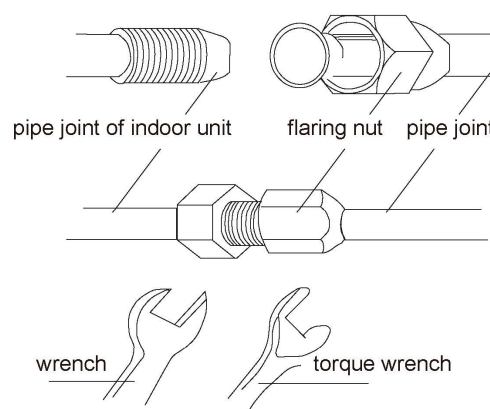

Fig 4.2
1. Aim the flaring port of copper pipe at the center of screwed joint and then tighten the flaring nut with hand as shown in fig 4.2.